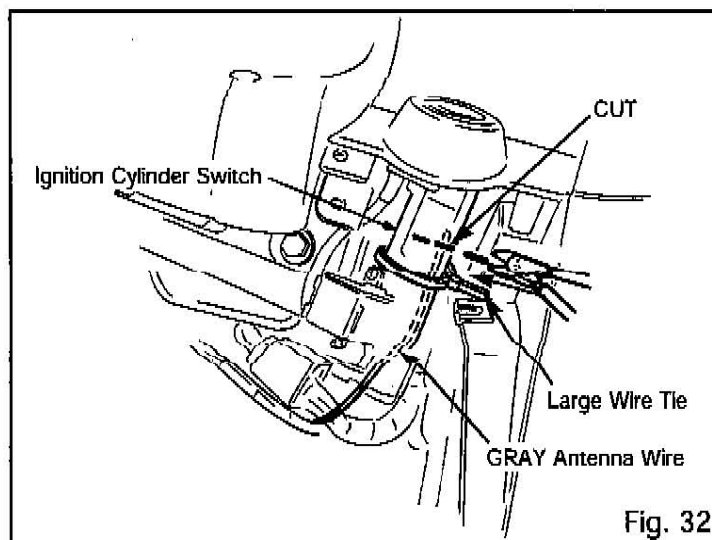

Fig. 32
- (17) A) Route the GRAY Antenna wire up along the Ignition Switch cylinder, then secure it with one medium wire tie as shown. Fig 32
- B) Cut off the excess length of the GRAY Antenna wire as shown. Fig 32